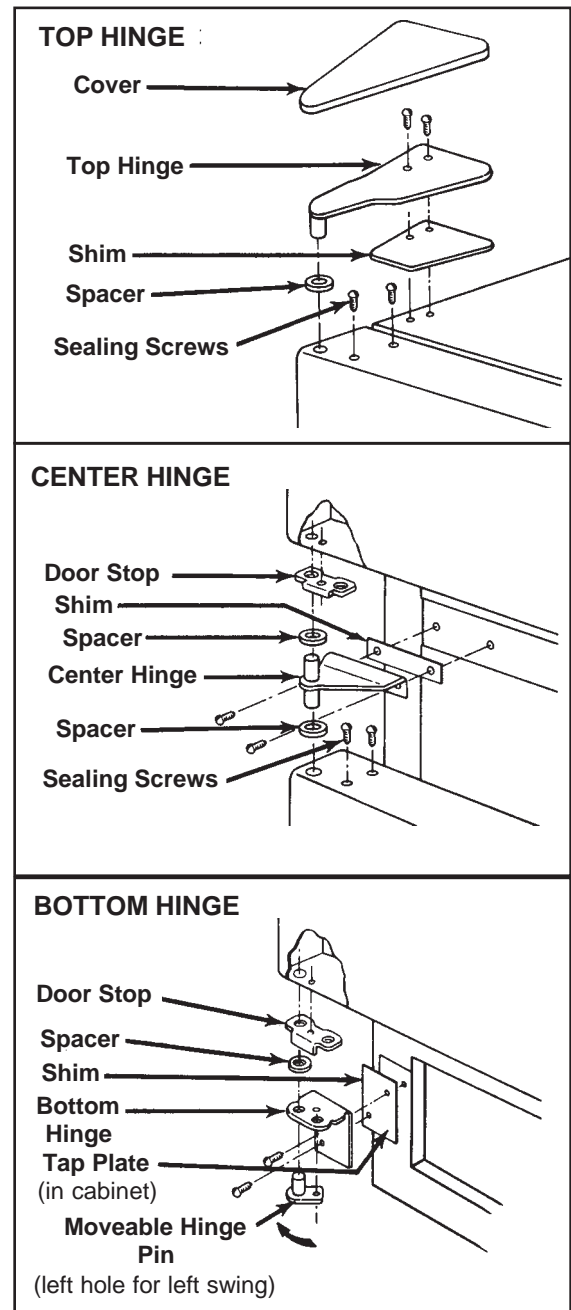

Fig. 19
- b) Loosen the center hinge (Figs. 19) and align the refrigerator door with the cabinet edge.
- b) Loosen the top hinge (Fig. 19) and align the top of the freezer door with the top of the cabinet.